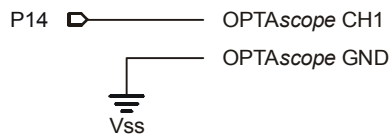
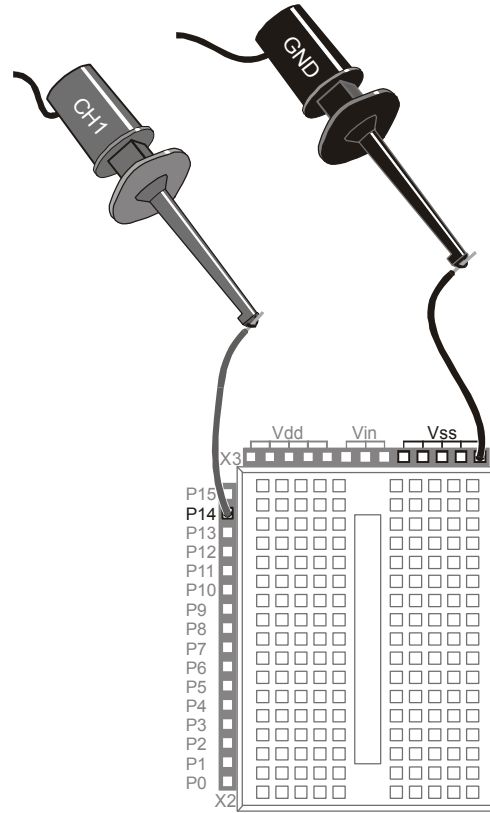

Figure 6-2:
Figure 6-3:
- √ Build the circuit as shown in Figure 6-2 and Figure 6-3